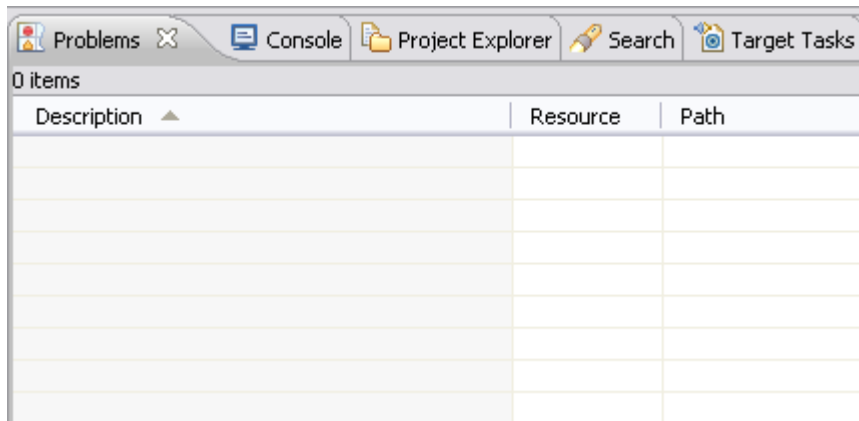

Figure 19. Problems tab with 0 errors
4. Validate that the “Problems” tab has no errors listed to ensure a success compilation. Figure 19 shows a “problems” tab with 0 error or warnings.